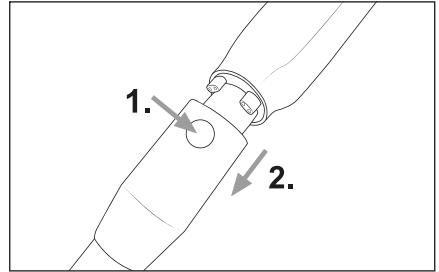

Fig. 8
- ◆ To remove the suction pipe **23** from the appliance, hold down the suction pipe release button **24** and pull the suction pipe **23** off the suction opening of the appliance (see Fig. 8).